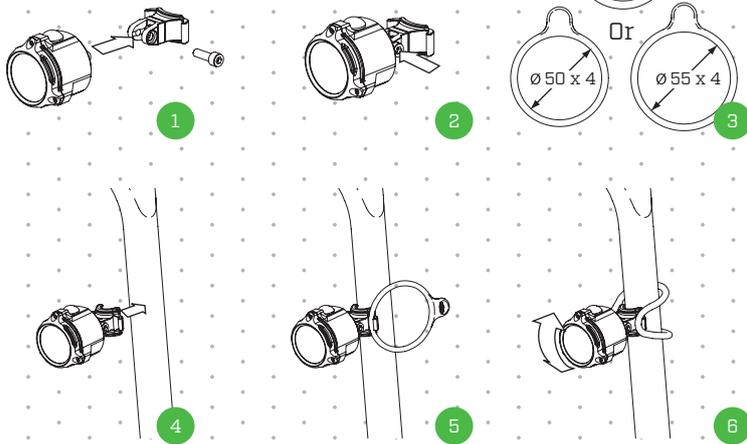

Fig. 1
- » Class 2 LED. Do not look directly at the beam. Permanent eye damage could result. Consider other road users when mounting the light to avoid dazzling them. Always position the light so that it is pointing slightly downwards so it is not possible to dazzle road users behind (see fig. 1).